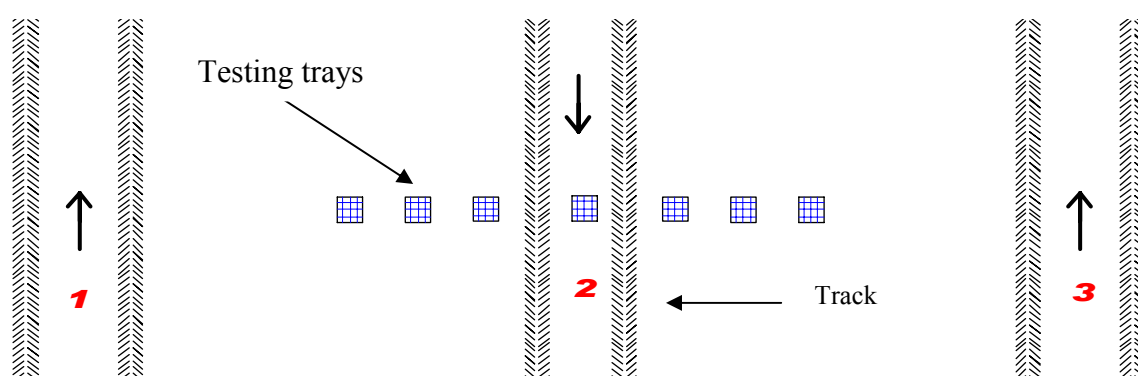

Fig. 29. Placing of testing trays.
- F. The simplest way for the execution of the test is by placing the trays in $\frac{1}{2}$ working width to both sides of the middle of 3 tracks. Ride forwards on the first track, back on the second and forwards again on the third. In order to get the right amount into the trays needed for an estimation, it is necessary to spread about 400 kg/ha or pass the trays several times (fig 29).